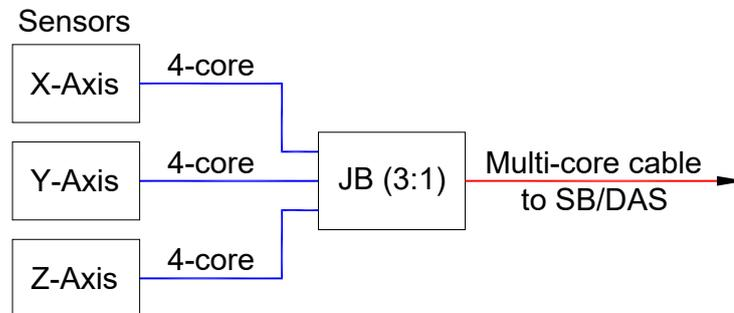

Figure 5 – Sensor connection to junction box
- Mounting brackets can be identified as per figure 5. Fix and grout brackets 1, 2 & 3 with the help of dummy sensor as per figure 6. The grout depth/height for 1 & 2 brackets is 200 mm and for bracket no. 3 depth/height of grout is 240 mm. Take precaution in grouting such that dummy sensor threads are not jammed as it is to be replaced by actual sensor.